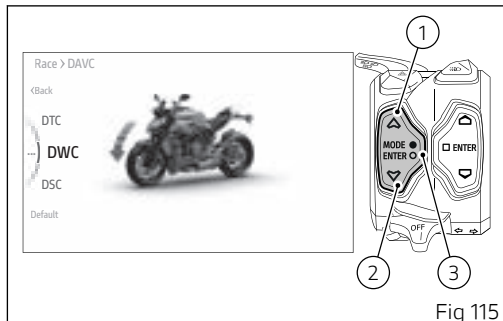

Fig 115
- Select the "Riding Mode" item and press ENTER (3).
- Select the Riding Mode you wish to customise and press ENTER (3).
- Select the "DAVC" item and press ENTER (3).
- Select the "DWC" (Fig 115) item and press ENTER (3).